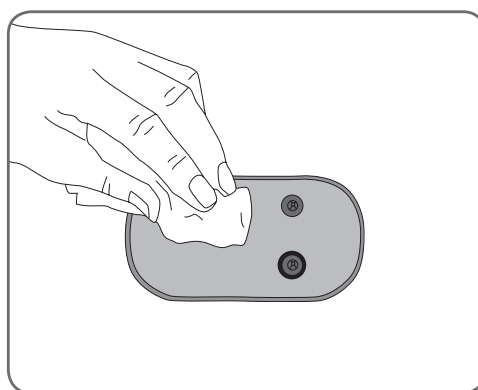

Figure 8-38: Blotting the Thigh cloth electrodes.
2. Press the electrodes together and gently squeeze out excess water. Then, with a soft cloth, gently wipe or blot excess water from snap side. See Figure 8-38.